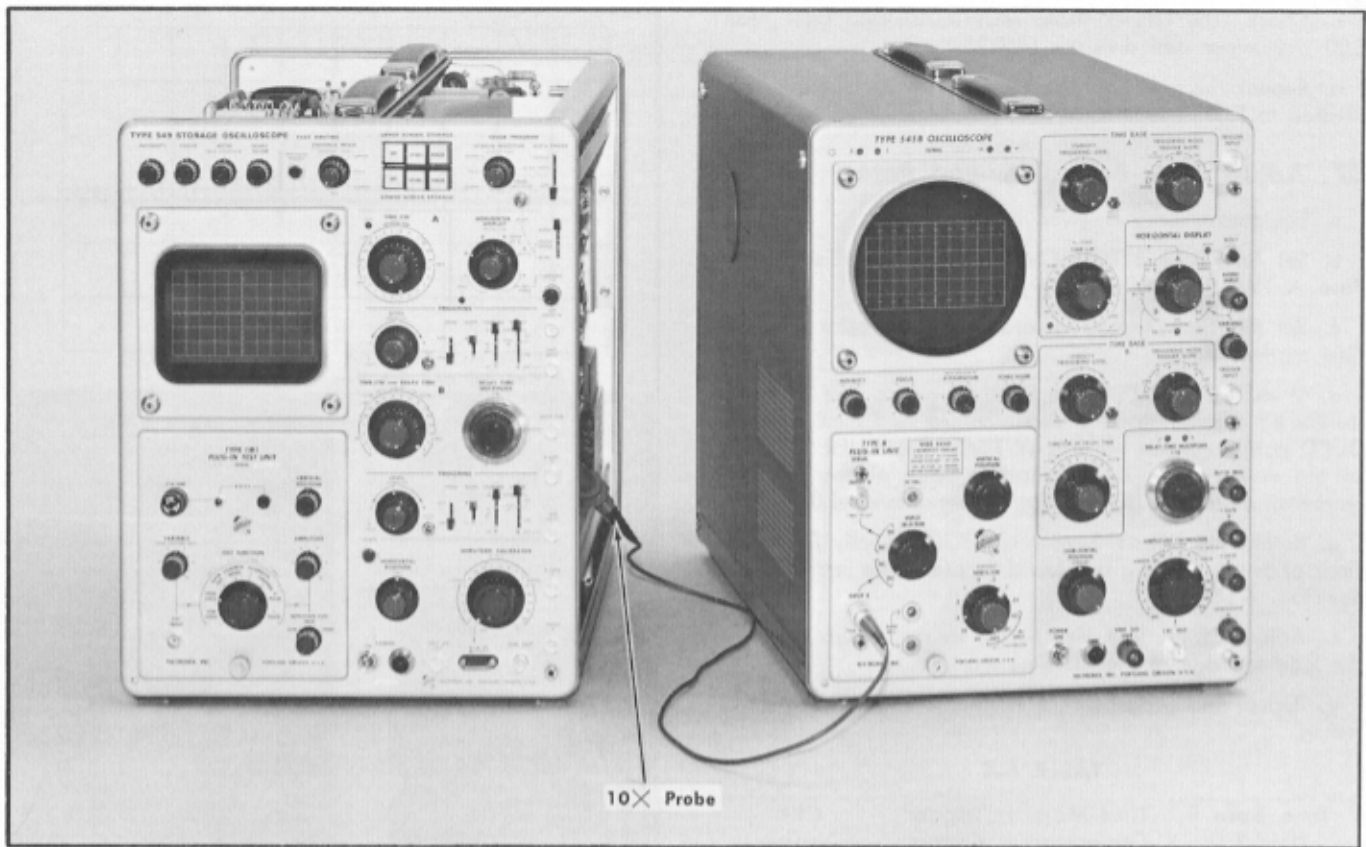

Fig. 6-35. Equipment setup for steps 39 and 40.
- Test equipment setup is shown in Fig. 6-35.